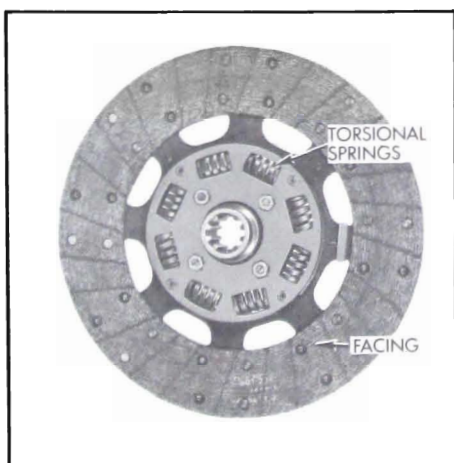

Figure 4-2—Driven Plate - Transmission Side
is riveted to each side of every segment of the plate. When the clutch is fully released, the waved segments cause the facings to spread approximately .055" and the movement of pressure plate provides an additional clearance of approximately .030" to assure full release of driven plate. See Figure 4-2.
3. Clutch Driven Plate. Inspect driven plate for condition of facings, loose rivets, broken or very loose torsional springs, and flattened cushion springs. See Figure 4-2.